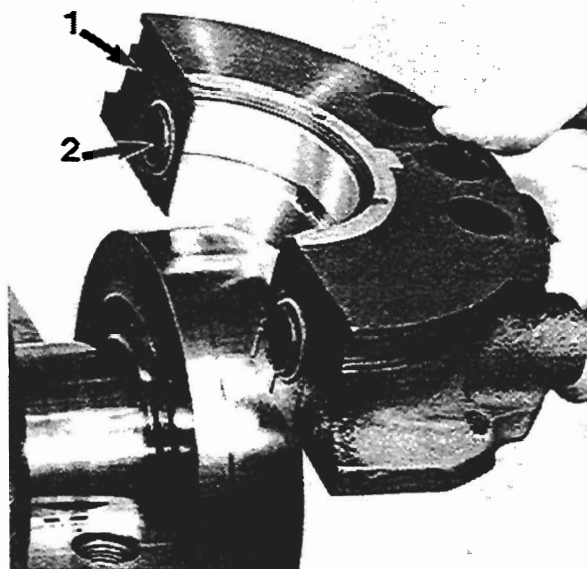

Fig. J7
5. Renew the main bearing cap 'O' rings (lip seal crankshafts only). Lightly apply Perkins POWERPART Hylomar jointing compound to the rear main bearing cap mounting faces, outside the grooves machined in the faces (see fig. J7). The jointing compound must not go into the grooves.
7. Lightly apply Perkins POWERPART Hylomar jointing compound to the rear main bearing cap mounting faces, outside the grooves in the faces. The jointing compound must not go into the grooves (see fig. J7).